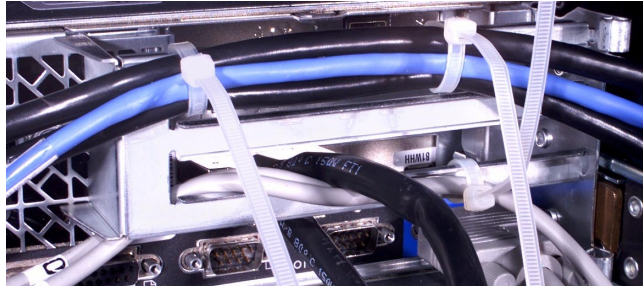

Figure 7. Securing the PS/2 Cables to the Strain Relief Bracket
7. Secure the PS/2 cables of the KVM cable to the bottom of the strain relief bracket approximately 2 inches from the right corner (see Figure 7).